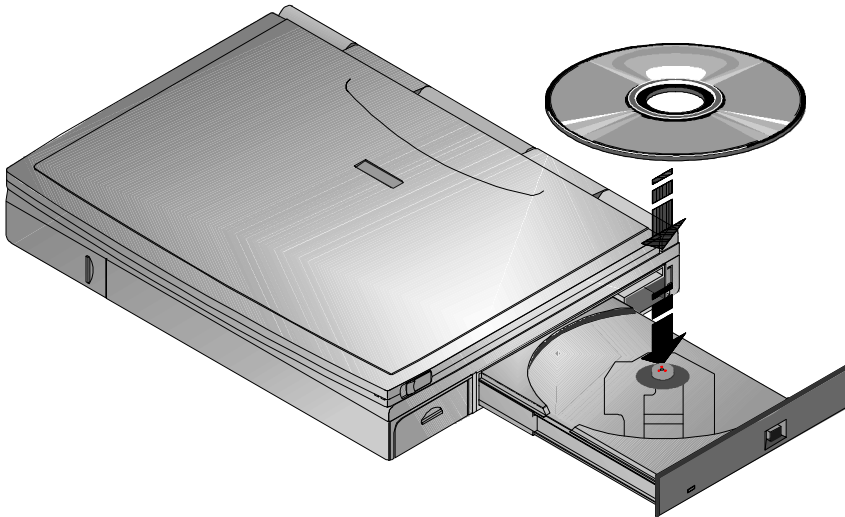

Figure 6-8: Loading a CD into the Module
2. Place the disc into the tray with the CD's label facing up. (Figure 6-8)